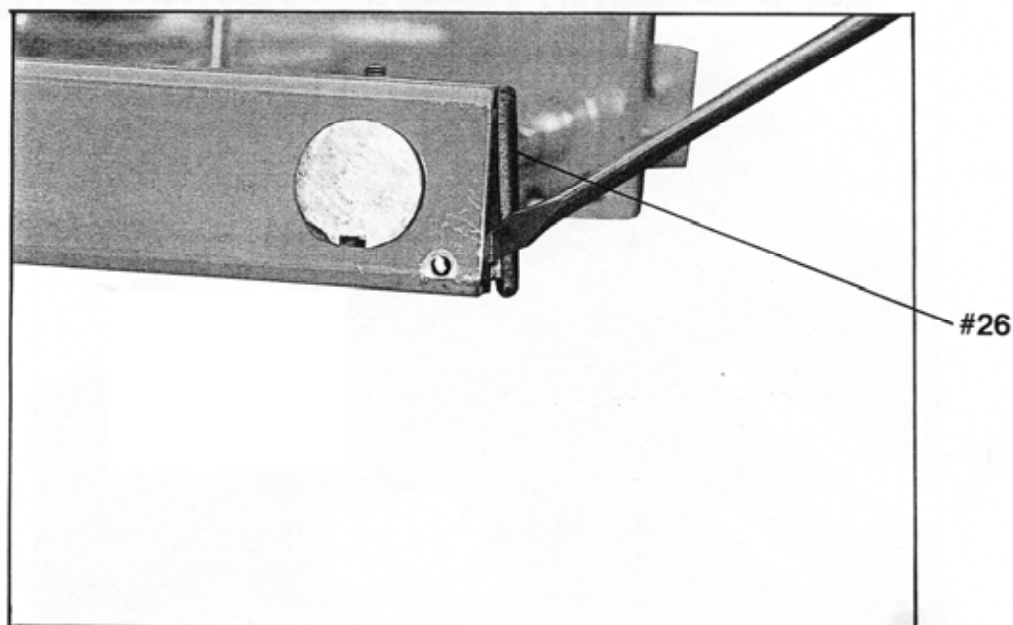

FIG. 12
2. REFER TO FIG. 12, PRY THE COVER (#26) OFF WITH SCREW DRIVER.